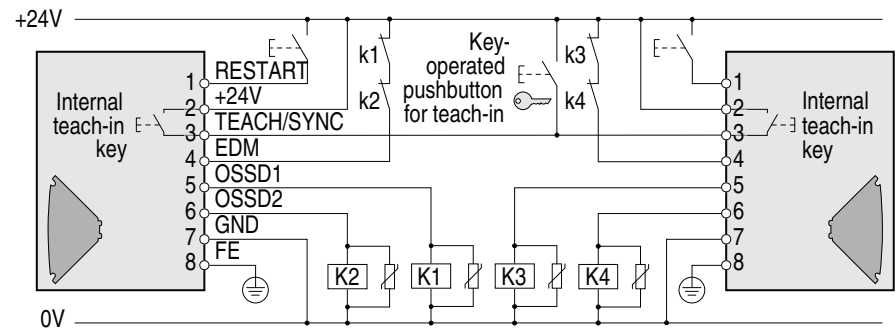

Figure 23 - Connection of two SC300 with synchronization
- If you use two SC300 in an application, then both systems use the same external key-operated pushbutton for teach-in (see Figure 23).